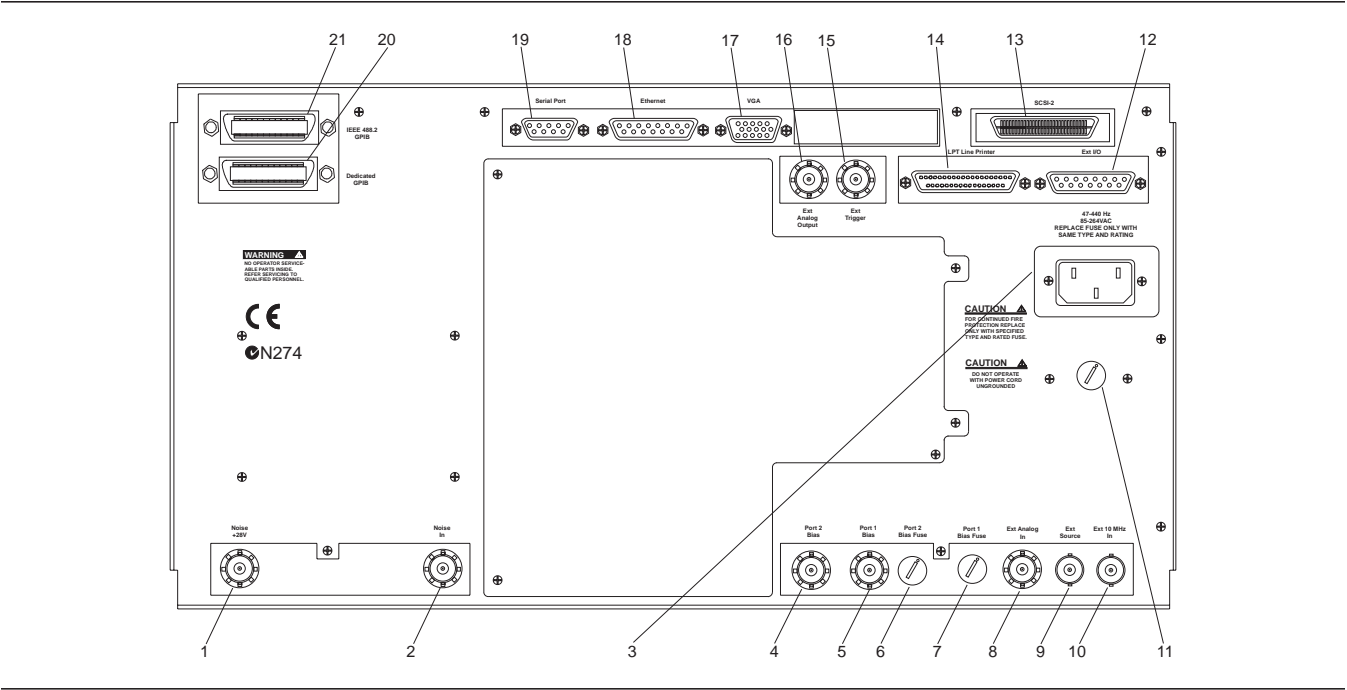

Figure B-1. Rear Panel, MS462XA and MS462XB
Figures B-1 through B-7 provide pinout diagrams for the rear panel connectors.
20. **Dedicated GPIB:** IEEE 488 standard 24-pin connector that allows the MS462XX to remotely control a second, third, and up-to-a-fourth frequency source, an external plotter, analyzer, or other peripheral. Figure B-1 provides a pinout diagram.
21. **IEEE 488.2 GPIB:** IEEE 488 standard 24-pin connector that provides for remotely controlling the MS462XXX from an external computer/controller via the IEEE-488 bus (GPIB). Figure B-1 provides a pinout diagram.